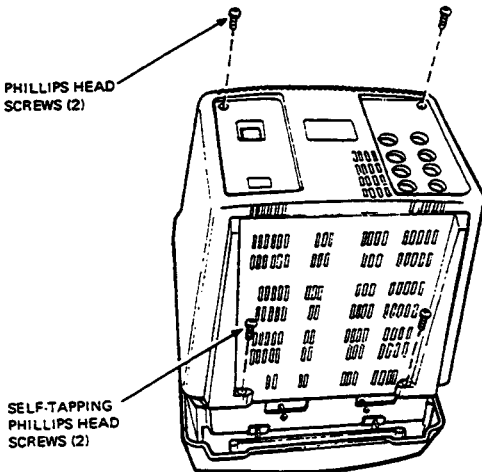

Figure 4-4 Monitor Cover Removal
6. Remove the four screws that hold the cover (Figure 4-4).